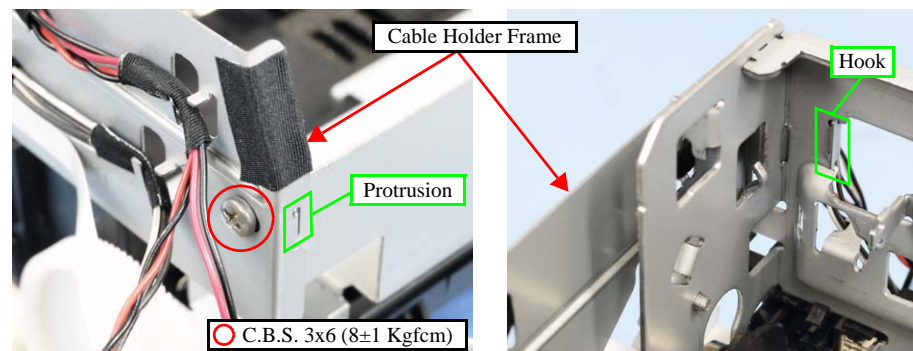

Figure 4-87. Removing the CR Unit (2)
- After installing the Cable Holder Frame, confirm the engagement of the protrusion, and then tighten the screw. (See Figure 4-87.)
- When installing the Cable Holder Frame, make sure that it is positioned correctly in the front and back direction. (Fig. 4-87)
2. Remove the screw that secure the Cable Holder Frame to the Front Frame. (See Figure 4-87.)